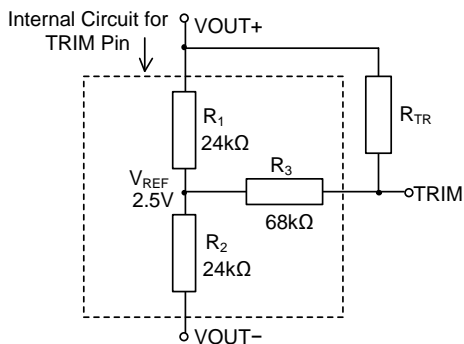

Figure 5. For Trimming Down the Output Voltage
To trim down the output voltage, a resistor between TRIM and VOUT+ is added as shown in Figure 5.
Use formula (2) to calculate the trimming resistance shown in Figure 5.